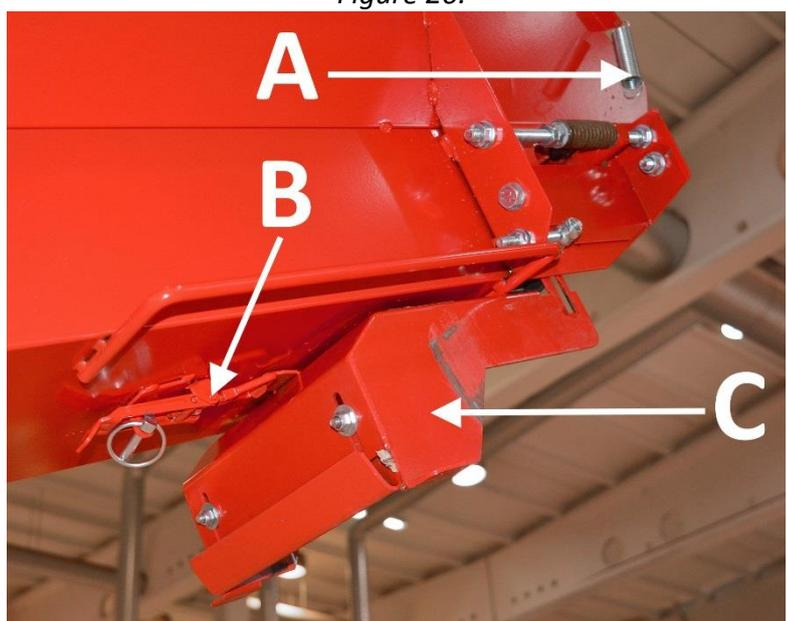

Figure 26a
1. Detach one end of spring A (in Figure 26a, 2 pcs) from separation plate C.
2. Turn plate C to the lower position, as shown in Figure 26a.
B (in Figure 26a).